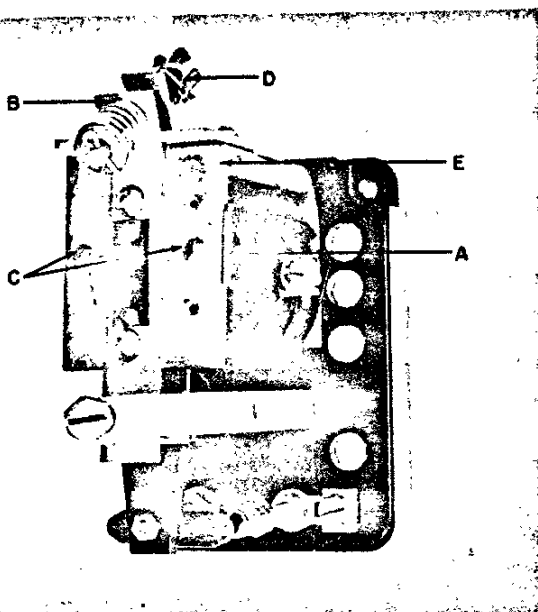
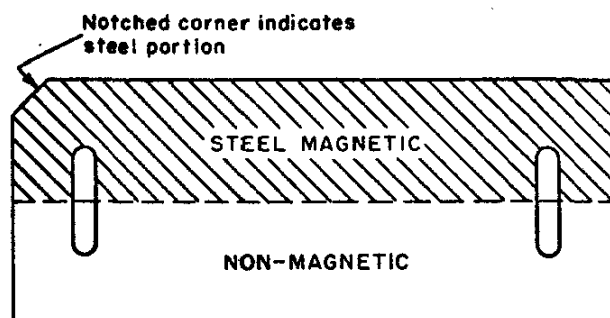

Fig. 3. IC2820-1754D relay
Fig. 4. Bimetal sliding shim used on IC2820-1754D relay
The relay should be mounted with the armature knife edge at the top and the contact tips in the down position, Fig. 3. The knife edge (E) of the armature
The bimetal sliding shim (A), Fig. 3, should always be assembled to the relay armature with the steel magnetic portion in the up position or nearest the armature knife edge. The notched corner of the shim, Fig. 4, indicates the steel portion.
The adjustment of time delay dropout should be made by means of the sliding bimetal shim (A), Fig. 3. The bimetal shim is composed of a steel magnetic portion and a nonmagnetic portion, Fig. 4. To shift the position of the shim, loosen the two screws (C), Fig. 3, in the armature of the relay and slide the shim either up or down depending upon the change
Spring pressure should be measured on the screw at the normally open contact end of the compound bar. The spring pressure varies with voltages and times required. The adjustment of the tension spring (B), Fig. 3, is made by adjusting the nut (D), Fig. 3. Discretion must be used in adjusting the spring. The magnitude of the spring tension must be such as to hold the armature positively against the back stop but not of such magnitude as to prevent the armature from closing when the relay coil is energized at its maximum operating temperature.